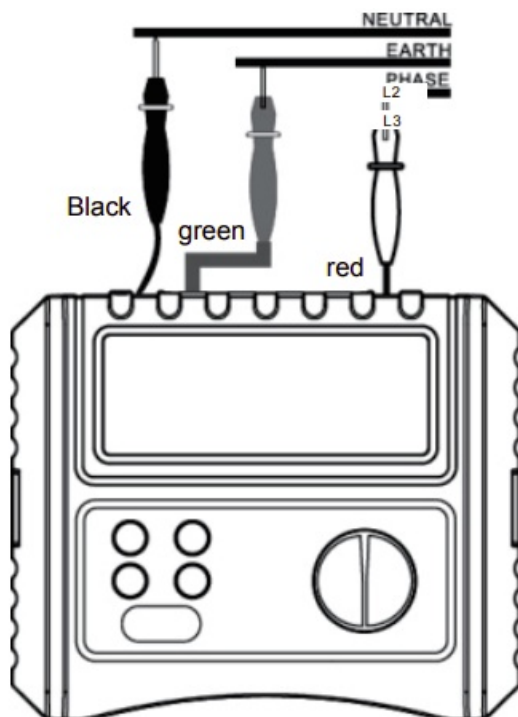

Figure 6
3. Then connect three test leads into three-phase AC system(black to L1, green to L2, red to L3, refer to Figure 6 for details), after that, the Tester will indicate the phase sequence and open phase result on LCD.
2. Insert three connectors of one-plug test leads or three separate test leads into three input terminals of the Tester (red to red, green to green, black to black).(Refer to Figure 6, 7, 8)